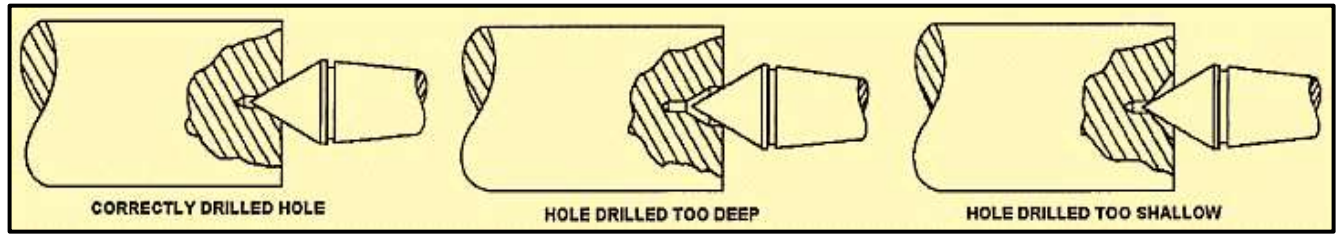

Figure 7-38. Correctly and incorrectly drilled center holes.
**Drilling Holes:** Correct drillings and countersunk holes have a uniform 60° taper and has clearance at the bottom for the point of the lathe center. The holes should have a polished appearance so as not to score the lathe centers. The actual drilling and countersinking of center holes can be done on a drilling machine or on the lathe itself. Before attempting to center drill using the lathe, the end of the workpiece must be machined flat to keep the center drill from running off center. (Figure 7-38).